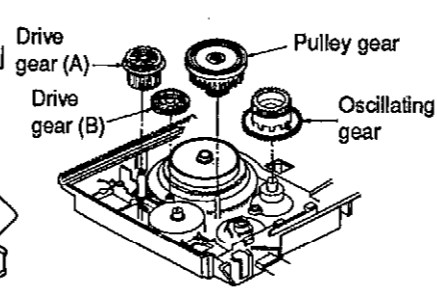

Fig.5
9. Install the drive gear (B), the drive gear (A), the oscillating gear ass'y and the pulley gear. (See Fig.5.)